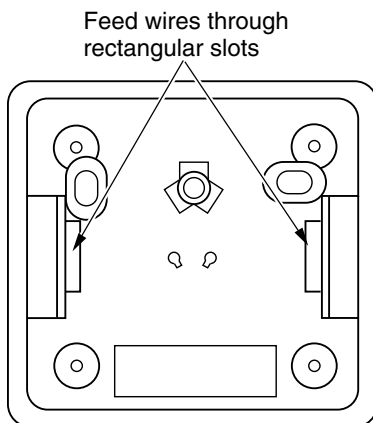

Figure 34 - Back View of Thermostat Base
- Feed the electrical wires through the rectangular slots (from the back) on each side of the base (see Figure 34).